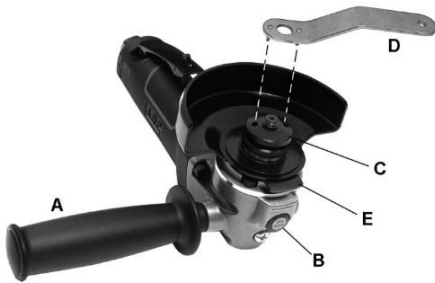

Figure 1
1. Install dead handle (A, Figure 1) into threaded hole on either left or right side of grinder.
2. Press spindle lock (B) while rotating outer flange (C), until you feel spindle lock engage. Continue pressing spindle lock.
3. Place pin wrench (D) into holes of outer flange. Rotate counterclockwise to loosen flange, and remove it.
10. To reposition disc guard, push tab (E, Figure 1) toward housing, rotate guard to desired position, then release tab. Continue rotating guard until it “clicks” into position.